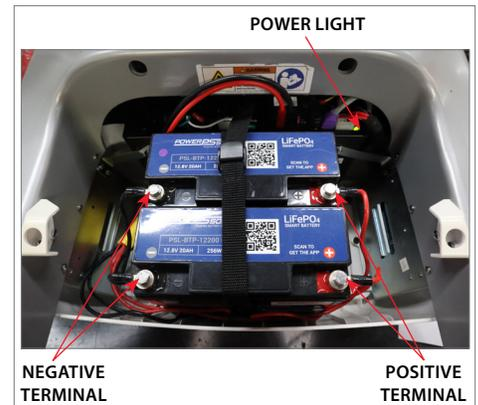

Figure 52
3. Ensure the unit is powered down by checking the HES (Figure 52). The **POWER LIGHT** should not be illuminated as Figure 52 depicts.
4. Disconnect the **POSITIVE TERMINAL** of one battery (Figure 52).